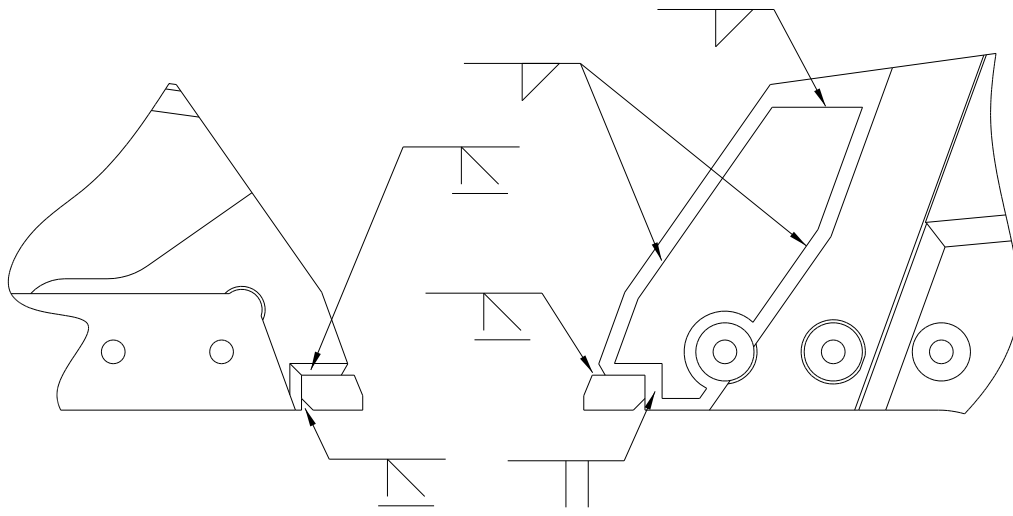

FIGURE 5-33
9. Use the recommended build-up weld rod to fill the chamfered areas with multiple passes. Do the sides first and stress relieve each pass by peening. A weld is required on both sides of the tip (see Figure 5-33).